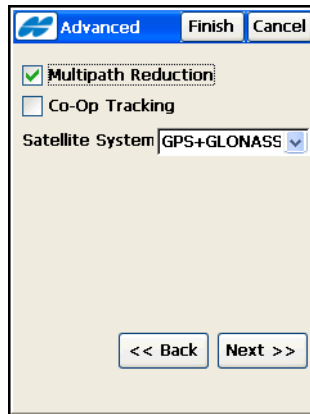

Figure 4-66. Config: Advanced
5. Set the advanced parameters for the survey (Figure 4-66) and tap **Next**.